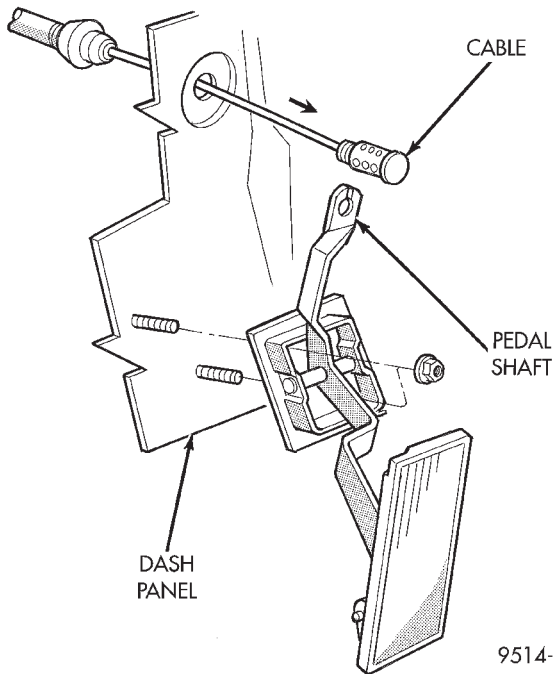

Fig. 37 Accelerator Pedal and Throttle Cable
- (1) Remove the throttle cable from the throttle body cam as described in Throttle Cable of this section.
- (2) Reach behind the top of the pedal shaft and push the retainer toward rear of vehicle (Fig. 37). It may be necessary to squeeze retainer ears together on dash side of pedal shaft.
- (3) Lift cable up through slot in top of pedal shaft.